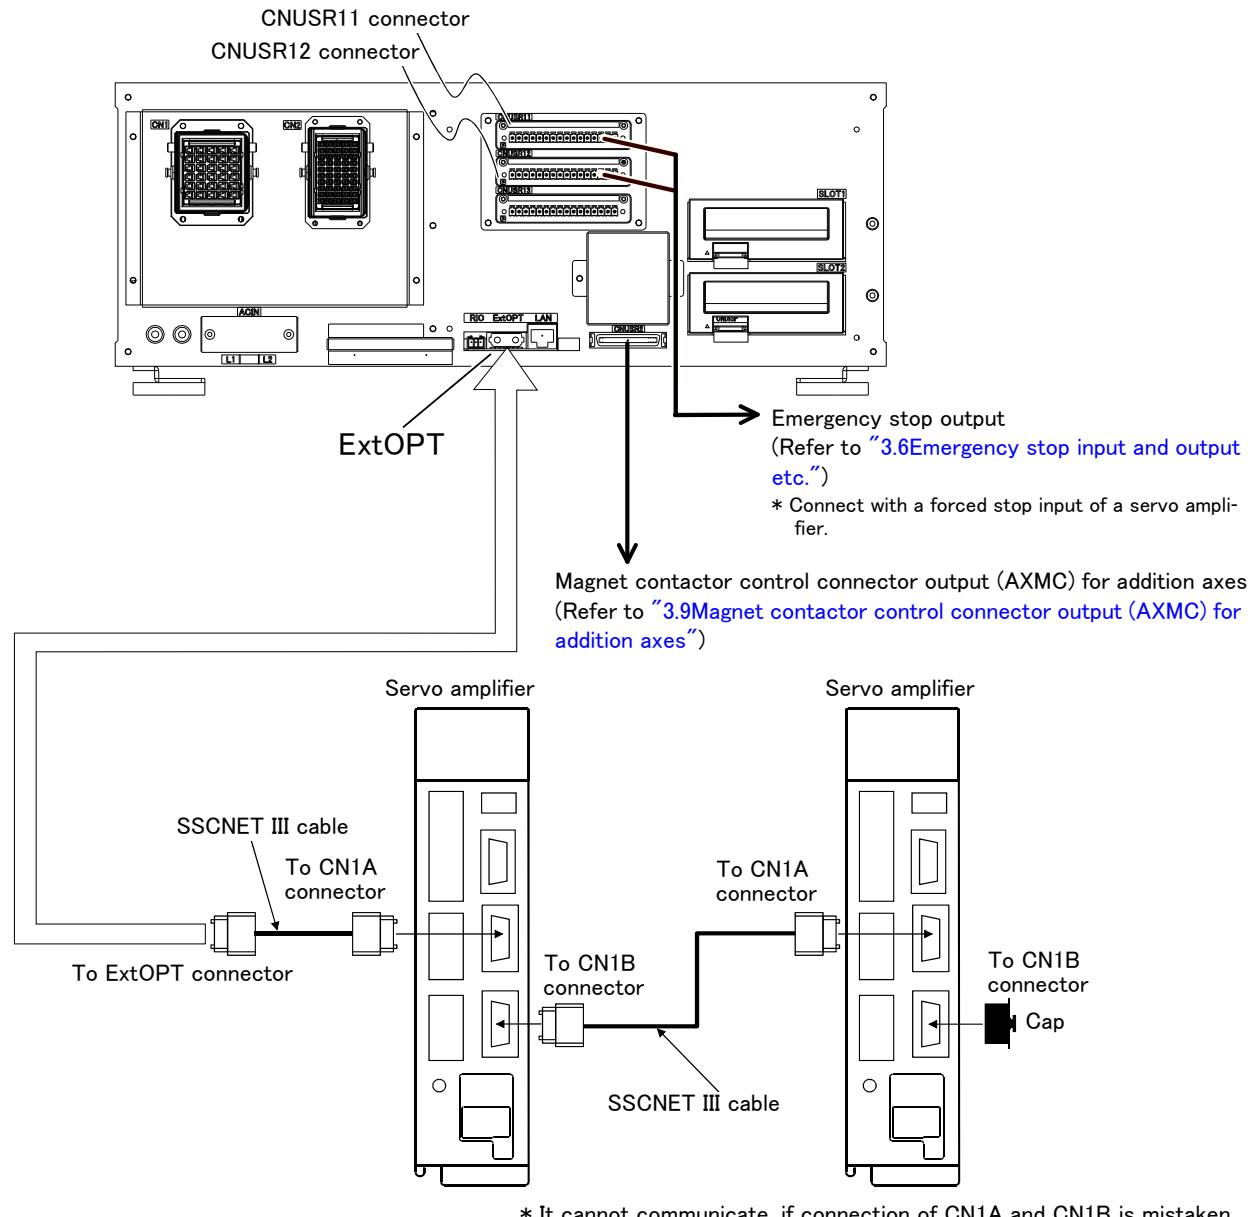
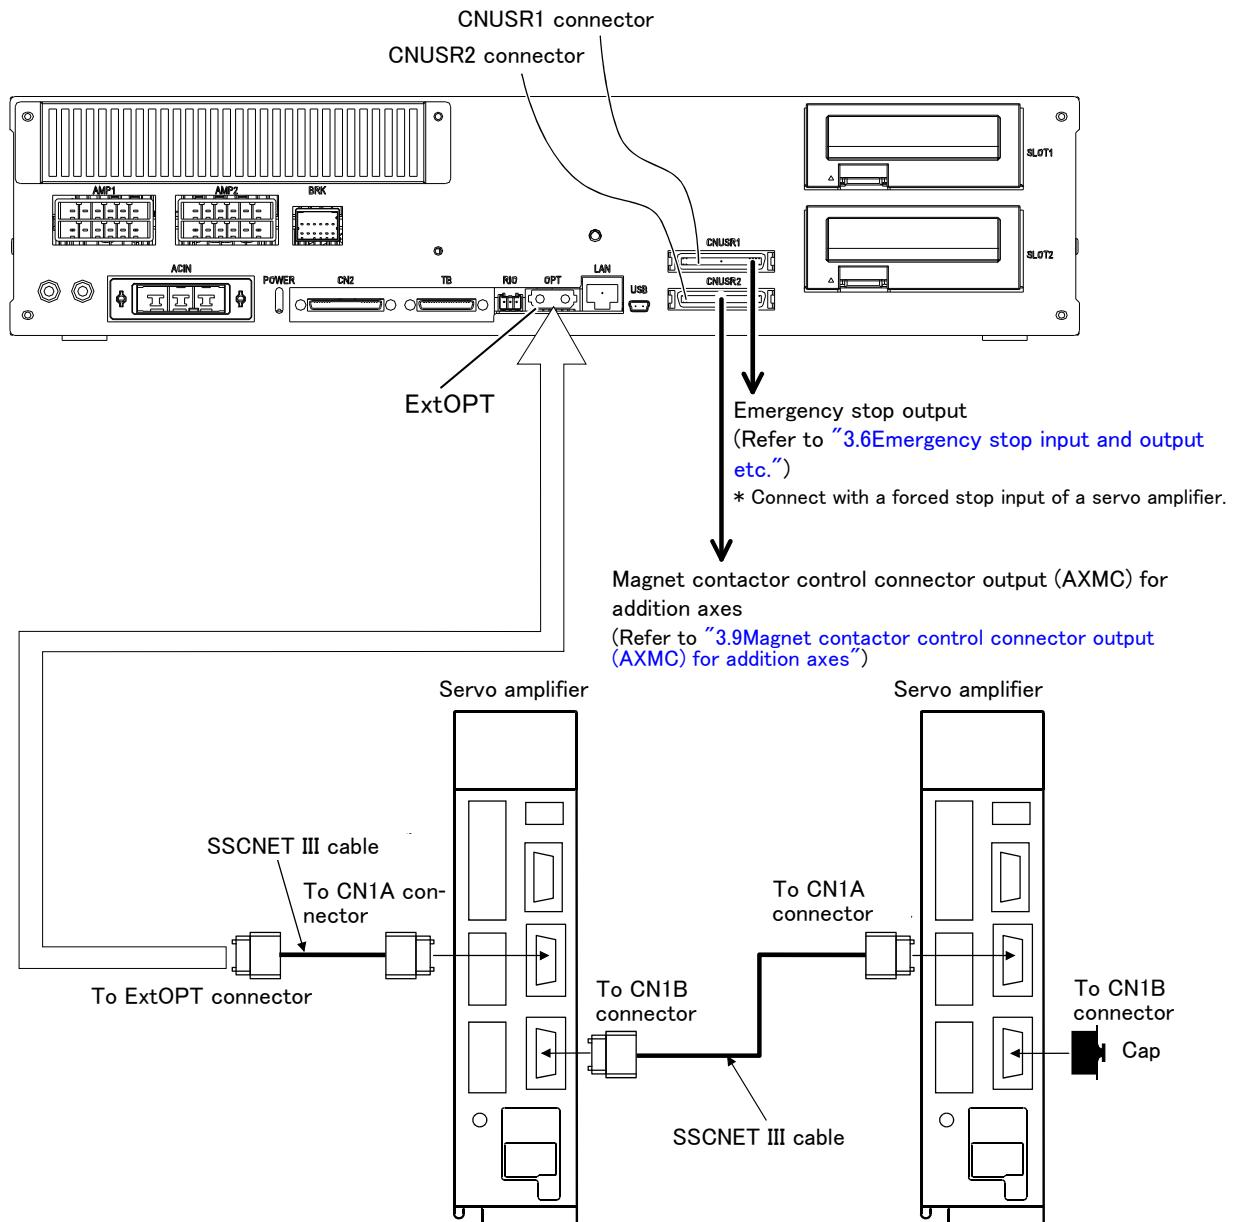

Fig.3-22 : Example of addition axis connection (CR750)
Fig.3-23 : Example of addition axis connection (CR751)
**Table 3-8** shows the connectors for additional axes inside the controller. Fig. 3-22 \(CR750\) and Fig. 3-23 \(CR751\) shows a connection example (configuration example).